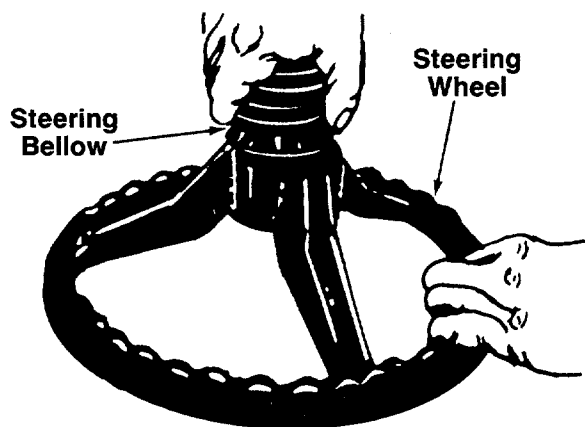

FIGURE 2.
2. Attach one end of steering bellow to the steering wheel as shown in figure 2.